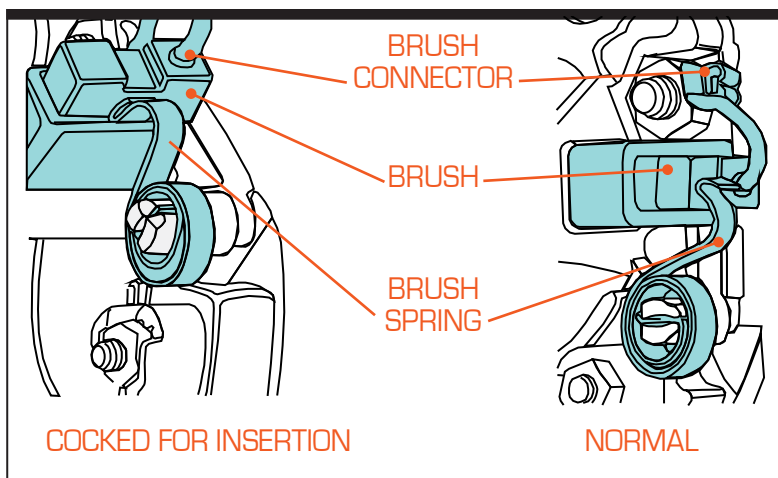

Figure 4-3. DC Motor Brushes with Gasketed Cover Removed
Step 4—Replace Brushes. Lift the brush spring from the end of the brush (see Figure 4-3). Remove the brush connector, withdraw the brush and inspect the length. To prevent motor damage, brushes should be replaced when or before they reach the half way point. Reverse procedure to replace brush. Replace motor access and feeder covers. Connect power and air. Initial and date the Maintenance Log